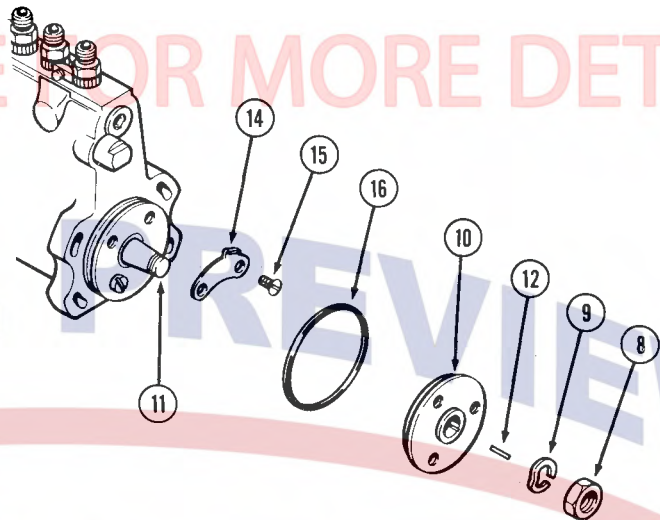

Figure 7
6. Remove the pump drive hub retaining nut (8) and lockwasher (9), Figure 7. Using a bolt on type puller, remove the drive hub (10) from the fuel pump shaft (11). Remove the drive hub key (12), if it shows signs of excessive wear. If the timing pointer (14) is bent or damaged, remove the retainer screws (15) and pointer (14). Remove and discard "O" ring (16).
7. Install timing pointer (14) and screws (15), Figure 7, and tighten 60 to 72 inch lbs. Install new "O" ring (16), drive hub key (12) and drive hub (10).
8. Install lockwasher (9) and drive hub retainer nut (8). Tighten nut 43 to 50 ft. lbs.